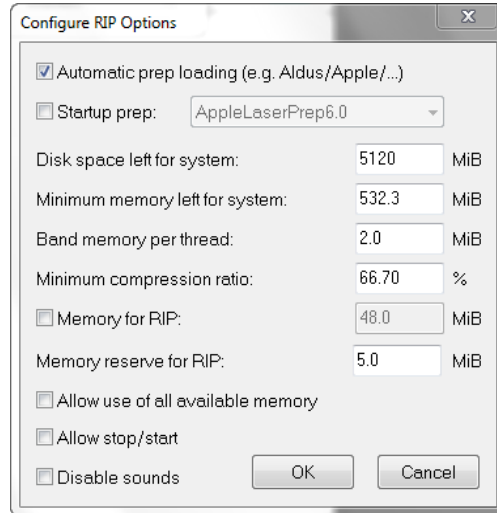

Figure 2.1 Configure RIP Options
1. In the RIP, select **Harlequin MultiRIP > Configure RIP**, to open the Configure RIP dialog (Figure 2.1).
2. Click Options to open the Configure RIP Options dialog (Figure 2.1).